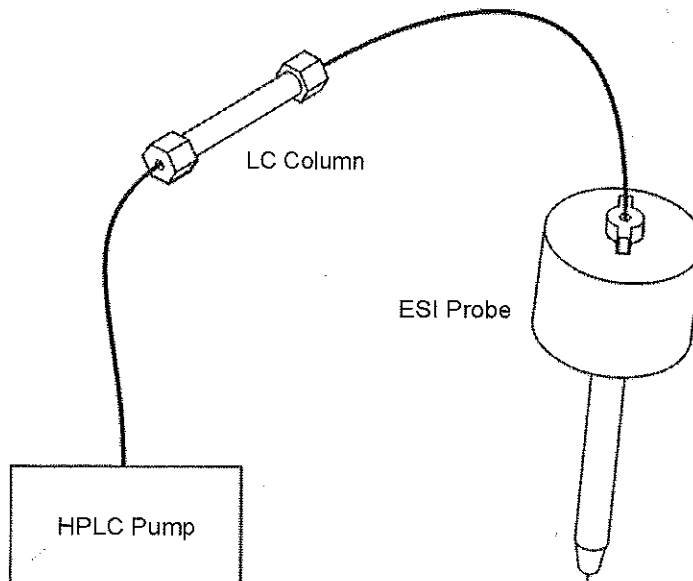

Figure 2-10 Column Connection to the ESI Probe
2. Reconfigure the connections to the ESI probe, so that the LC column is connected directly to the probe; i.e., remove the zero-dead-volume T-piece and syringe pump connection (Figure 2-10).